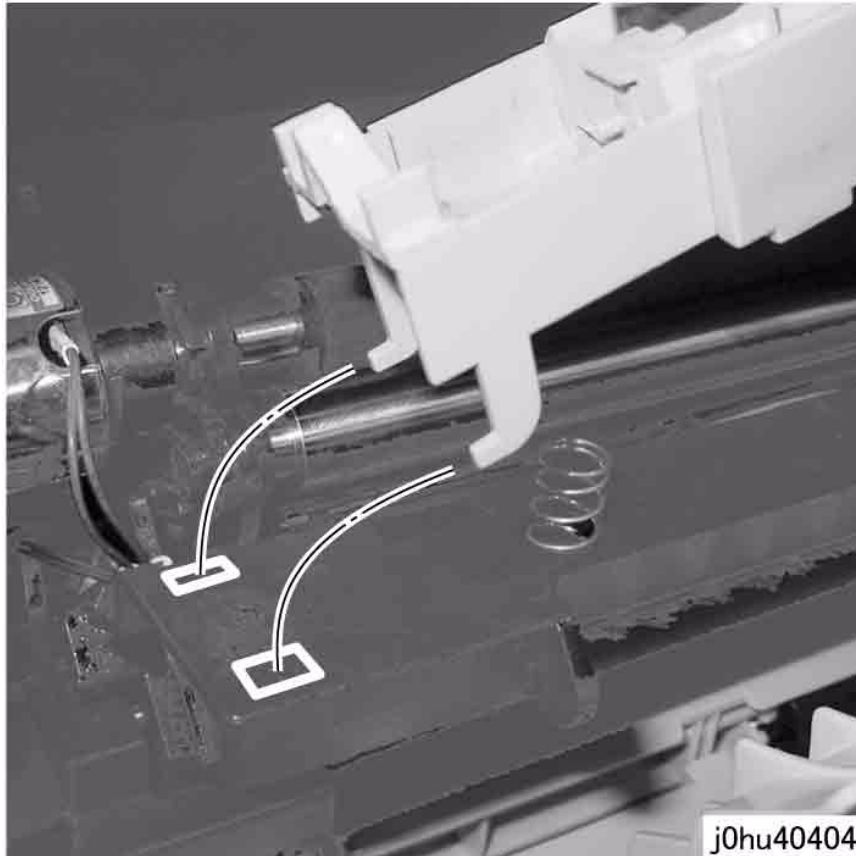

Figure 7 Install Transfer Corotron Housing
- When installing the Transfer Corotron Housing, insert the tabs of Transfer Corotron Housing into the square holes of the Corotron Bracket (Figure 7).